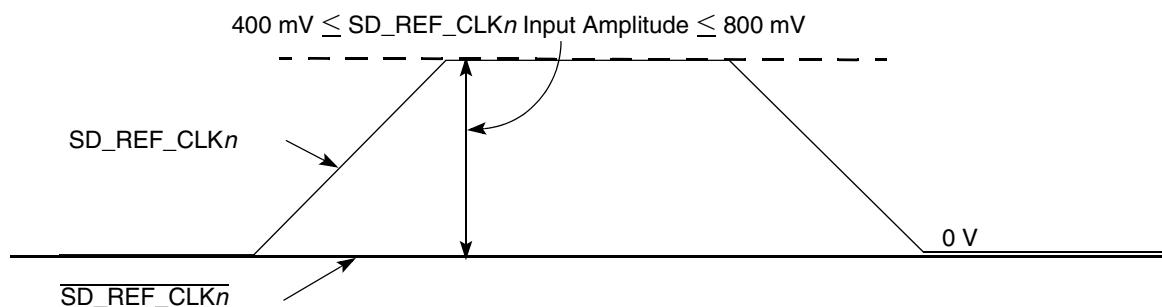

Figure 39. Single-ended reference clock input DC requirements
- The SD_REF_CLK n input average voltage must be between 200 and 400 mV. Figure 39 shows the SerDes reference clock input requirement for single-ended signaling mode.